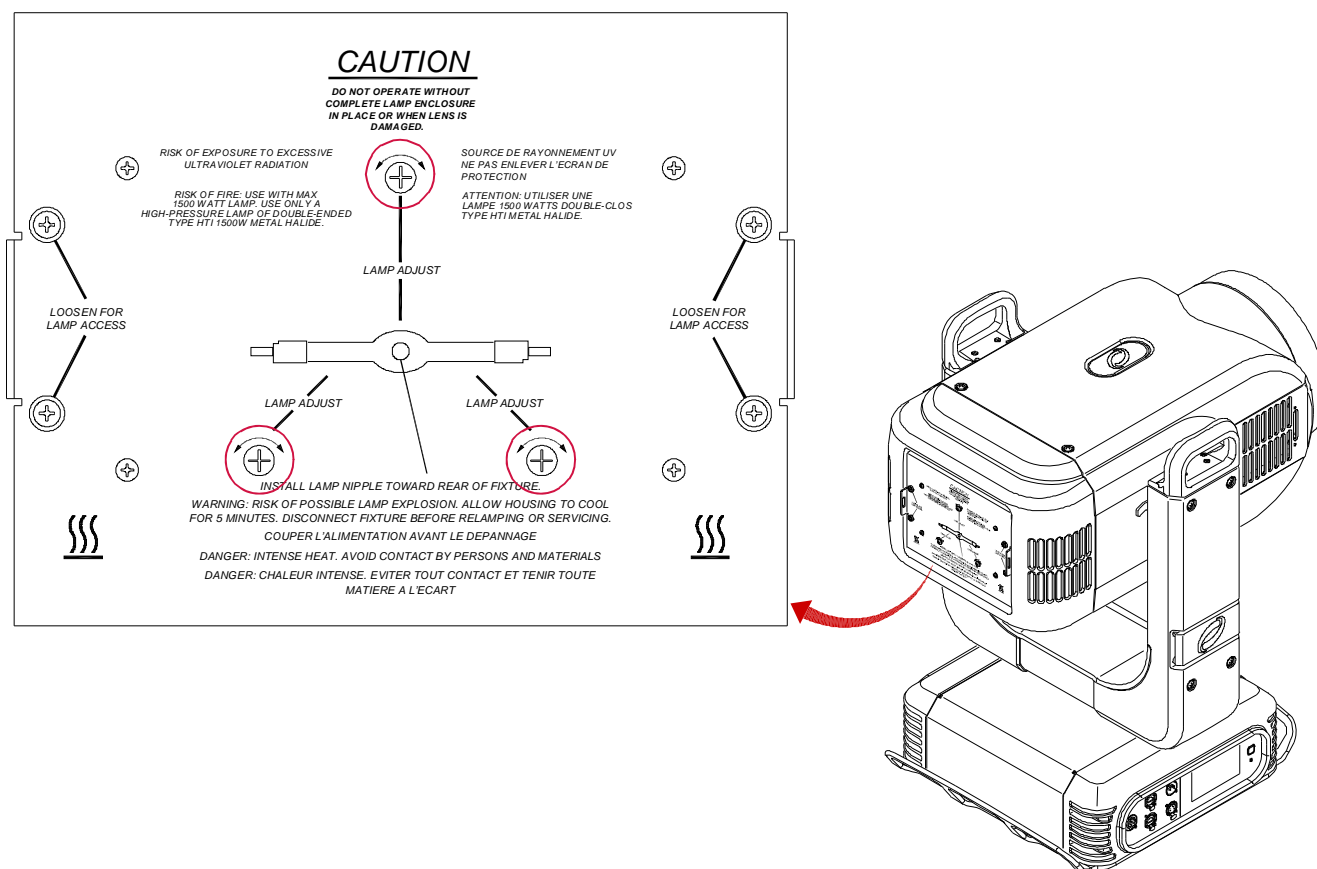

Figure 4-3: Adjusting the Lamp
- Step 4. At backcap, use three adjustment screws to optimize beam (**Figure 4-3**).